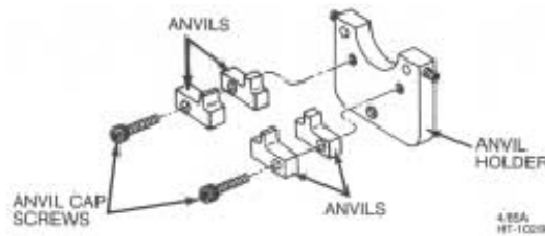

Figure 8
2. Remove the cap screw and defective anvil(s) from the anvil holder (see Figure 8).
1. Loosely install the new anvils to the anvil holder with the attaching cap screw (See Figure 8).